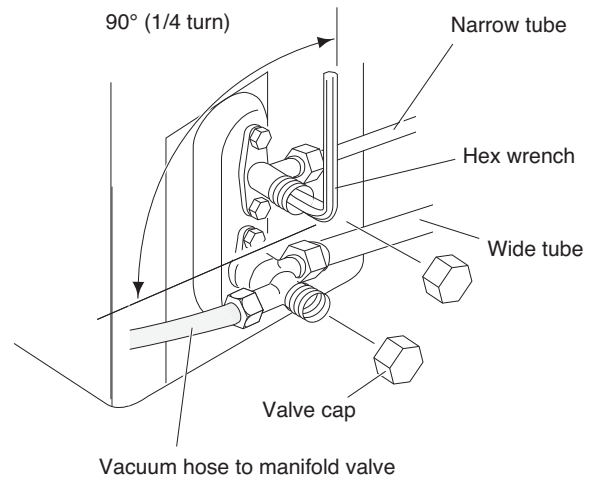

Fig. 36
- (5) With the vacuum pump still running, close the “Low” knob of the manifold valve. Then stop the vacuum pump.
- (6) With the accessory hex wrench, turn the valve stem on the narrow tube service valve counter-clockwise by 90 degrees (1/4 turn) for 10 seconds, and then turn the stem clockwise to close it again. (Fig. 36)